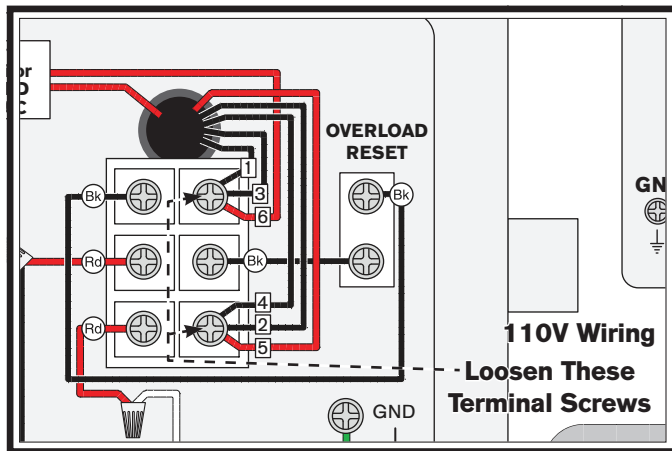

Figure 53. Wiring terminal locations.
2. Open the motor junction box, then loosen the wire terminals indicated in **Figure 53**. Remove the wires connected to those terminals.